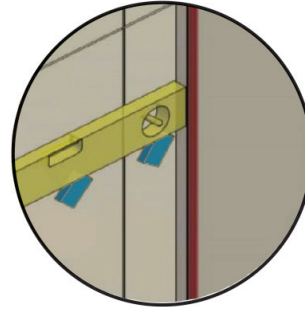

FIG 22.
- Remove backing from stabiliser blocks and press firmly onto wall (FIG 22).